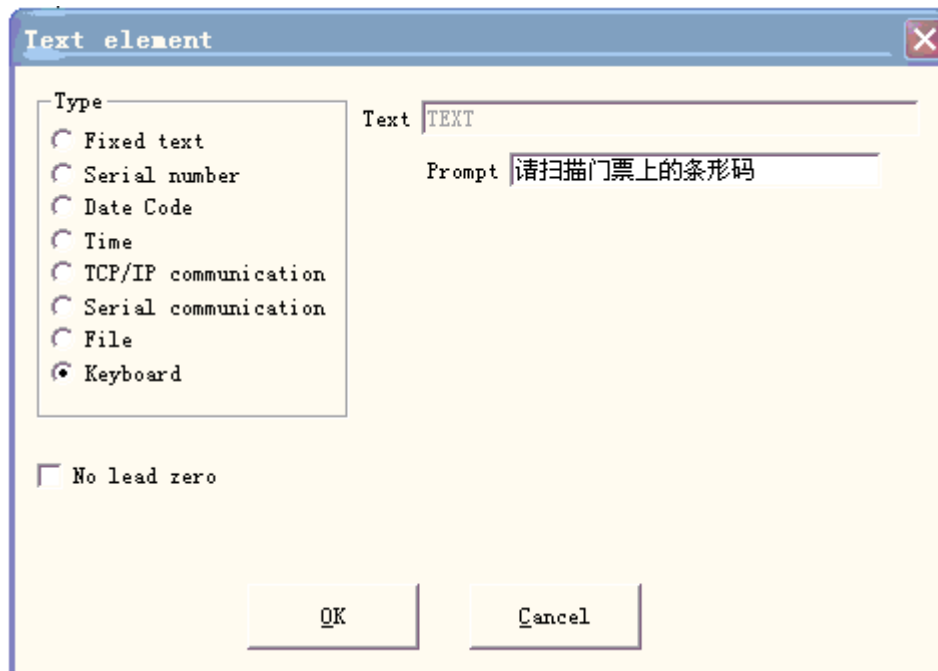

Figure 4-50-a Keyboard
establish text→enable variable text→add→keyboard, such as the figure 4-50-a:
2. Input prompting message, click “OK”, then we can obtain the figure 4-50-b.